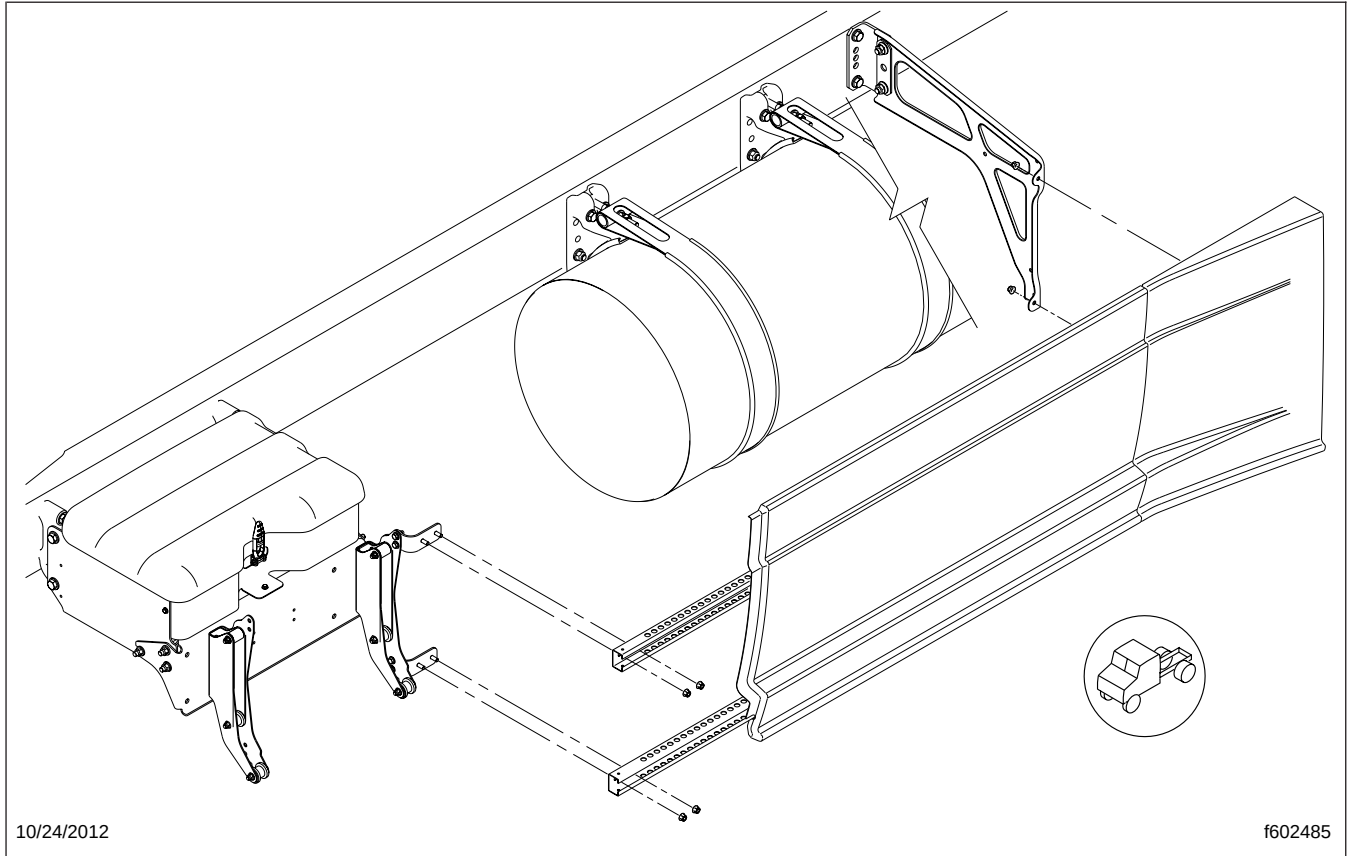

Fig. 3, Center Fairing, Frame-Mounted
3. Remove the four fasteners that attach the forward mounting area of the fairing support rails to the step support bracket. See Fig. 3.
4. Remove the fasteners at the top and bottom of the fairing where they attach to the frame bracket. See Fig. 3.